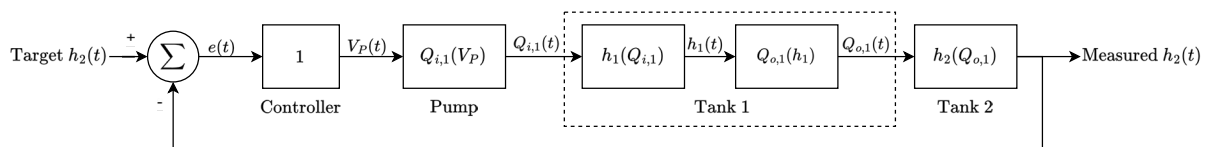

Figure 1 Nonlinear time-domain model of closed-loop system in configuration #3
1. We will start by adapting the nonlinear Simulink model created in Lab Task 1 for use in simulating the full closed-loop system in configuration #3. In Simulink create a model that represents the system in Figure 1.
- You should have a subdiagram for each block in Figure 1.
- Label each signal as shown in Figure 1, and label each block. You should also set all named signals to be logged, these can then be viewed using the Data Visualiser in Simulink or you can add a scope to each signal.
We will create a MATLAB script with tf or zpk variables to represent each block in the closed loop system (see Figure 1), and use MATLAB to investigate the behaviour of the system.